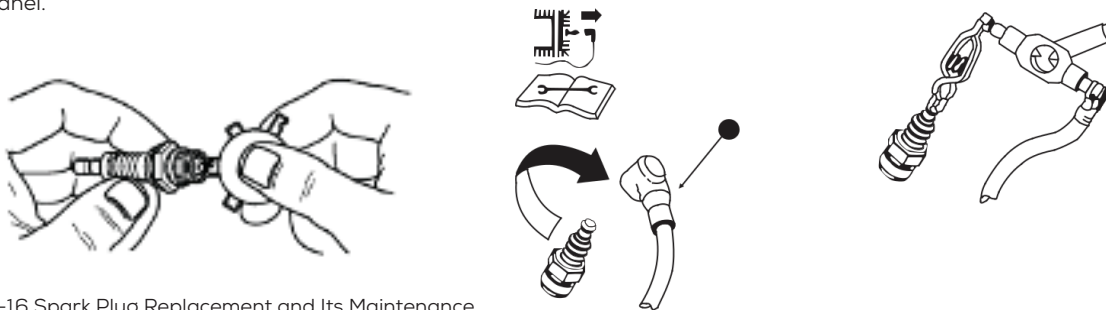

Figure-16 Spark Plug Replacement and Its Maintenance
- Inspect electrode gap with wire feeler gauge and reset spark plug to 0.6-0.7 mm (0.024-0.028 in). See Figure-16